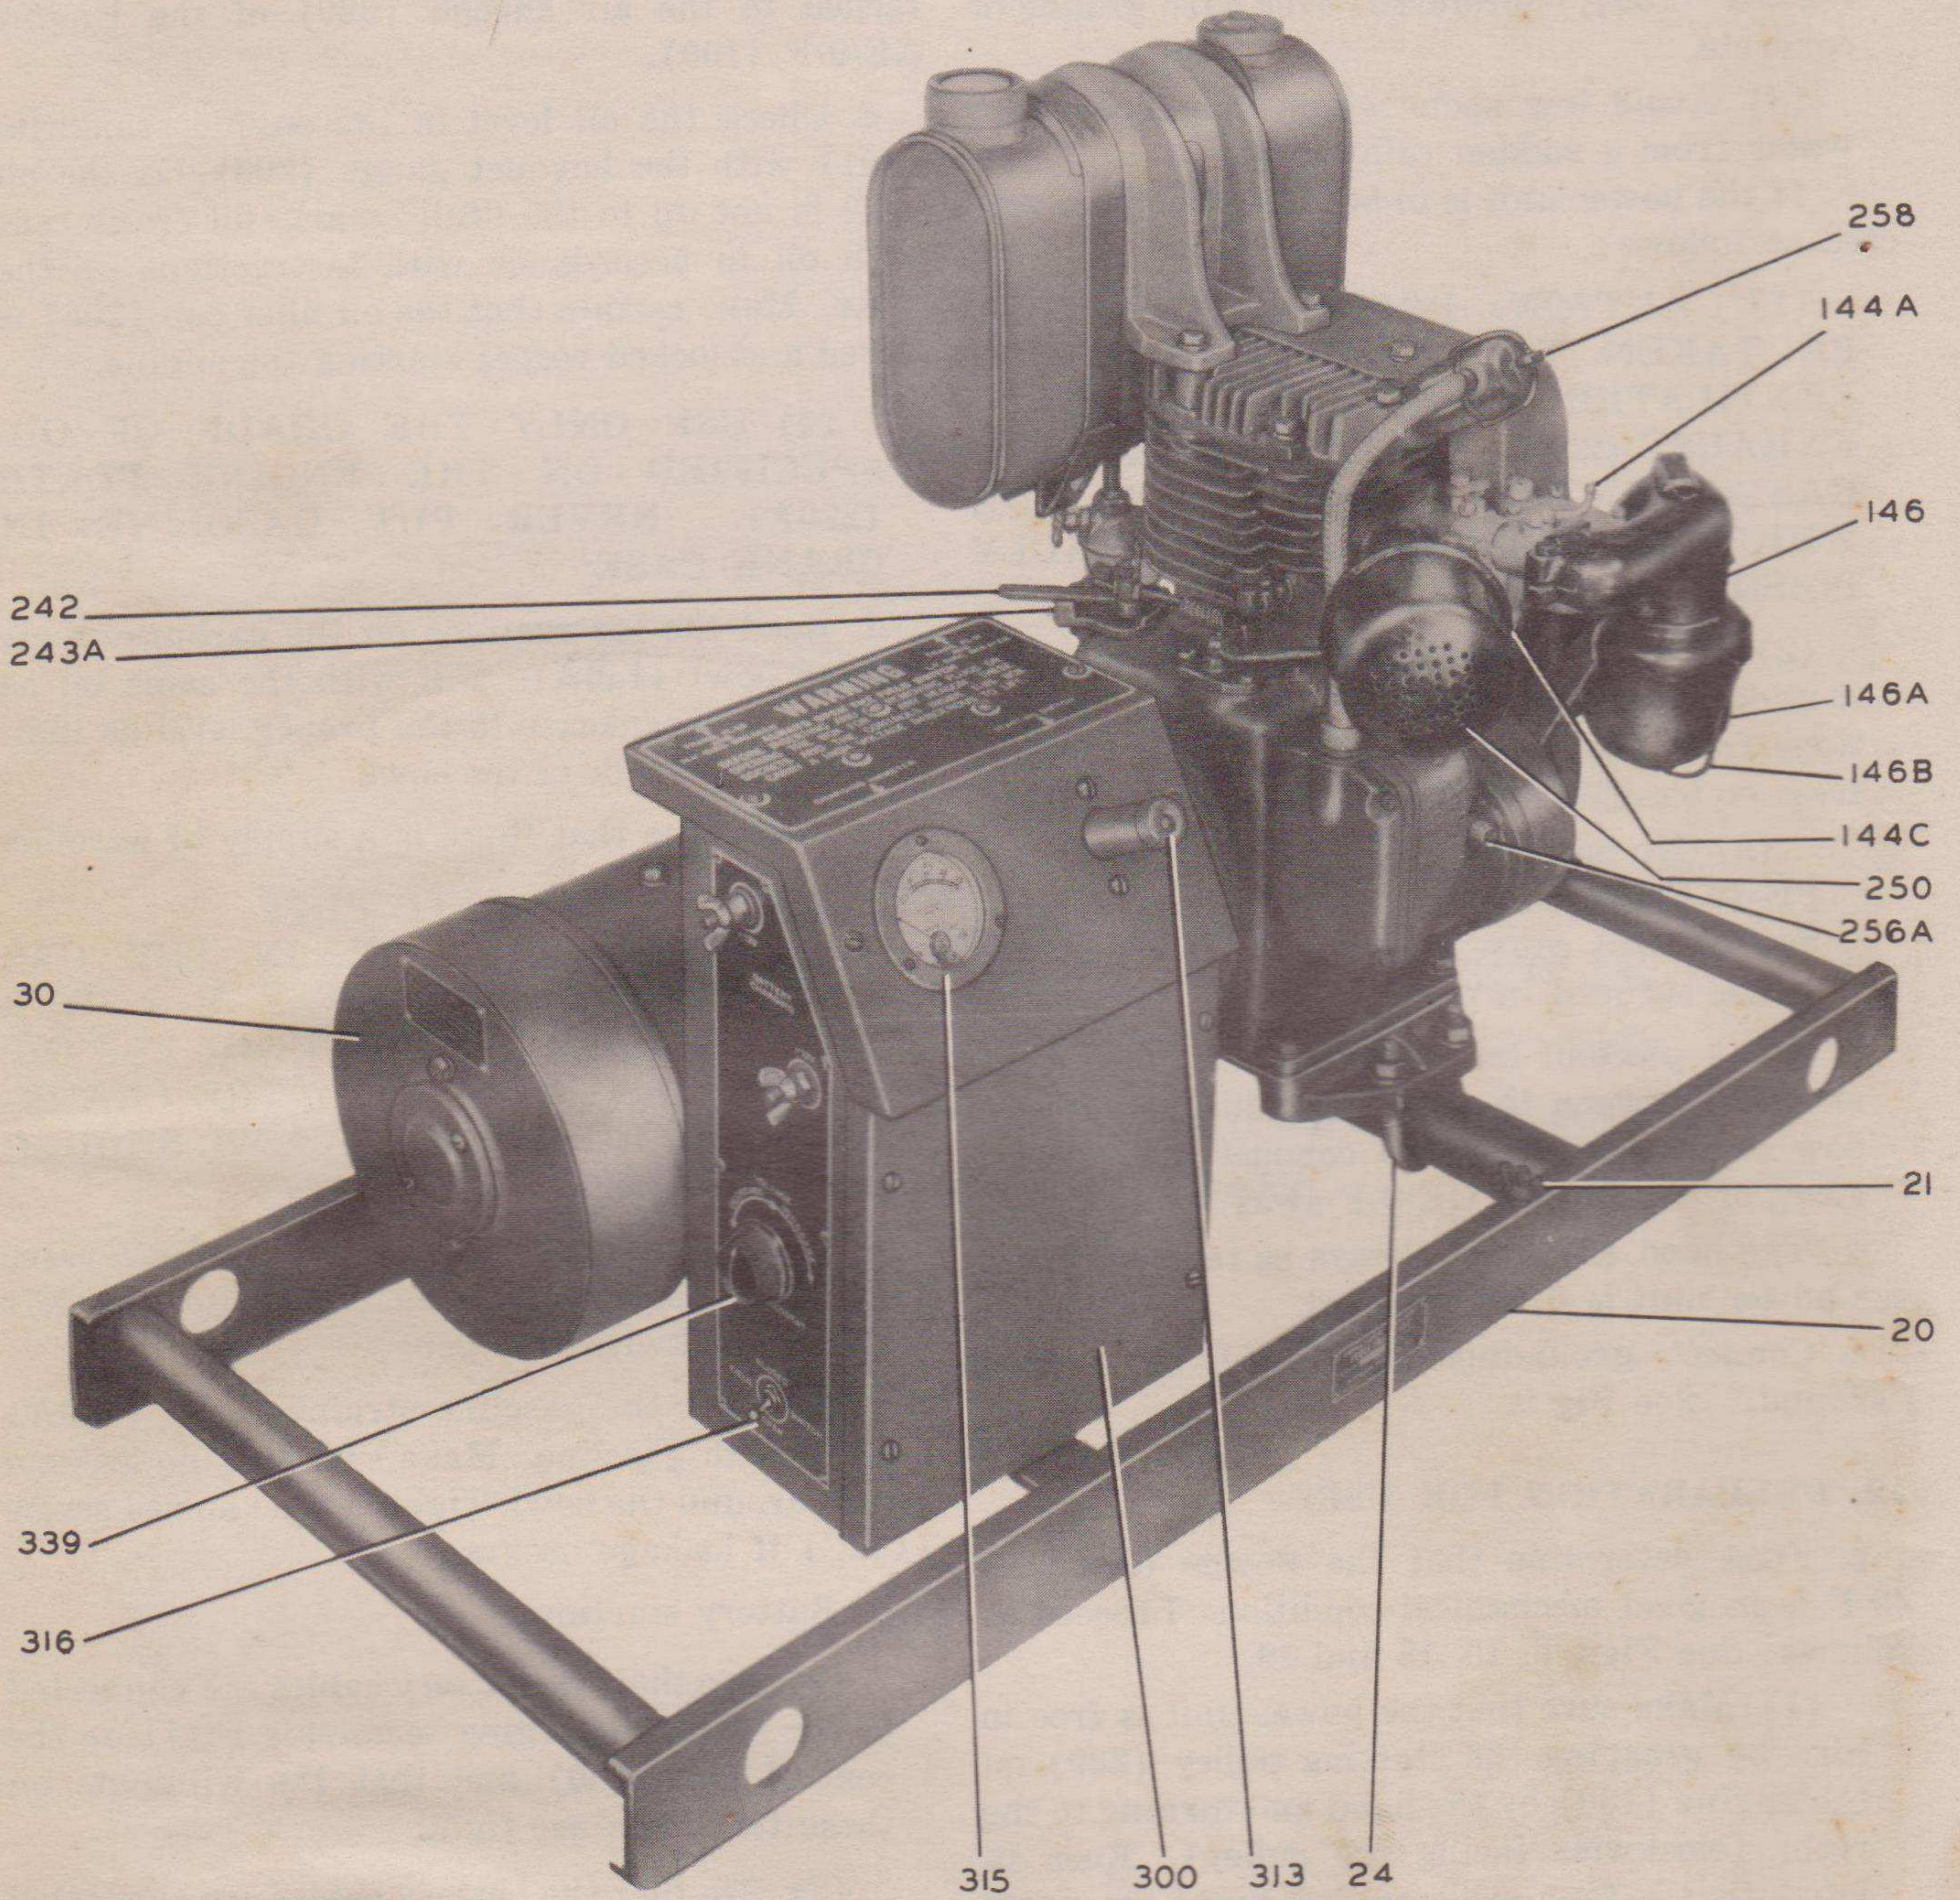

FIG. 9 POWER UNIT PE-49-F—FROM CONTROL BOX SIDE
(3) A piece of leader pipe, or any pipe large enough, between the muffler (250) and a window or door will help to conduct the exhaust gases of the Engine GE-9-F away.
d. The hood (3) must always be removed when the power unit is to be operated.
e. Connect grounding stud (21) to a good "ground." See Fig 9.
a. First determine that the Power Unit PE-49-F is in good mechanical condition. Proceed as follows: See Figs. 9, 10, 18 and 19.
(1) Make sure that the power unit is free to turn by grasping the starting pulley (239) on the engine (100) by the hand and turning to the right (clockwise facing the pulley). Keep in mind that a four cycle engine turns comparatively easy for about one and one-half revolutions but due to compression in the cylinder is hard to turn for approximately one-half turn. The resistance to turning due to compression is easily distinguished from mechanical obstructions as it is cushioned.
(2) Give the power unit a thorough visual inspection to make sure that no parts are broken, bent, or missing.
(3) Go over all bolts, nuts, and screws, and make sure that they are tight. Pay particular attention to the drain plug (253) and bolts holding the cylinder head (102).
b. Read the instructions on plate (220A) attached to the air shroud (220) of the Engine GE-9-F (100).
c. Check the oil level in the engine crankcase (101) with the bayonet gauge (208). If the oil level is not up to the "full" mark, fill crank case with oil in accordance with instructions on the plate. Make certain that the oil filler cap (208) is closed and locked before starting the engine.
(4) Less drain will be made on the battery if the engine is rotated by hand to a point just beyond the compression stroke before attempting to start.
c. Battery Starting. See Figs. 9 and 10.
(1) Set the engine speed control lever (242) midway between the stops.
(2) Set the choke (144A) in the closed position marked "CL".
(3) See that the field switch (316) is in the open position.
(4) Press the starting switch (313) with the palm of the hand until the engine fires. The choke will automatically open to approximately half-way position as soon as the engine begins to run.
(5) When the engine is running smoothly, open the choke completely.
(6) Move the engine speed control lever to the idling position (243A) and allow the engine to idle for several minutes. This is suggested to permit even warming up of the engine. This warming up period is particularly important in cold weather.
(7) After a reasonable wait, the engine speed control lever may be moved to the full speed position.
(8) WHEN STARTING A COLD ENGINE IN VERY COLD WEATHER, ALLOW THE ENGINE TO WARM UP AT REDUCED SPEED FOR AT LEAST 10 TO 15 MINUTES TO INSURE PROPER LUBRICATION.
(9) If engine should not run smoothly after warming up, adjust the carburetor by turning the carburetor needle valve (144C) slightly, in steps of one-eighth of a turn, either to the left or the right until engine runs smoothly.
(10) If engine should not fire at once after two 10-second applications of the starting switch, proceed as follows: